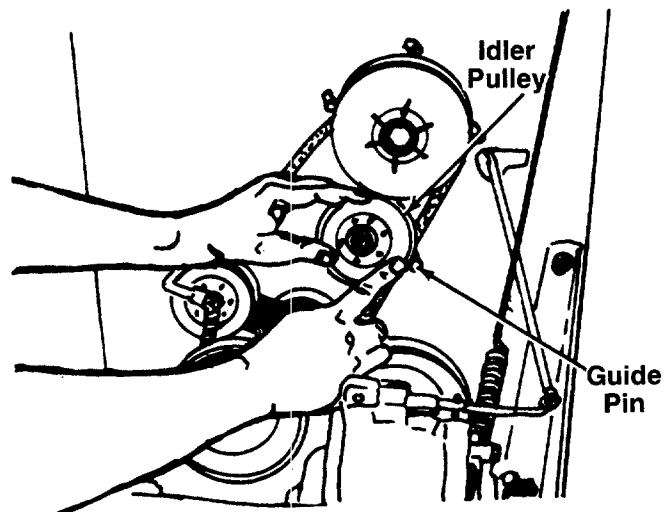

FIGURE 24.
- When sliding the idler pulley on the idler bracket, be certain the belt is between the pulley and guide pin. See figure 24.